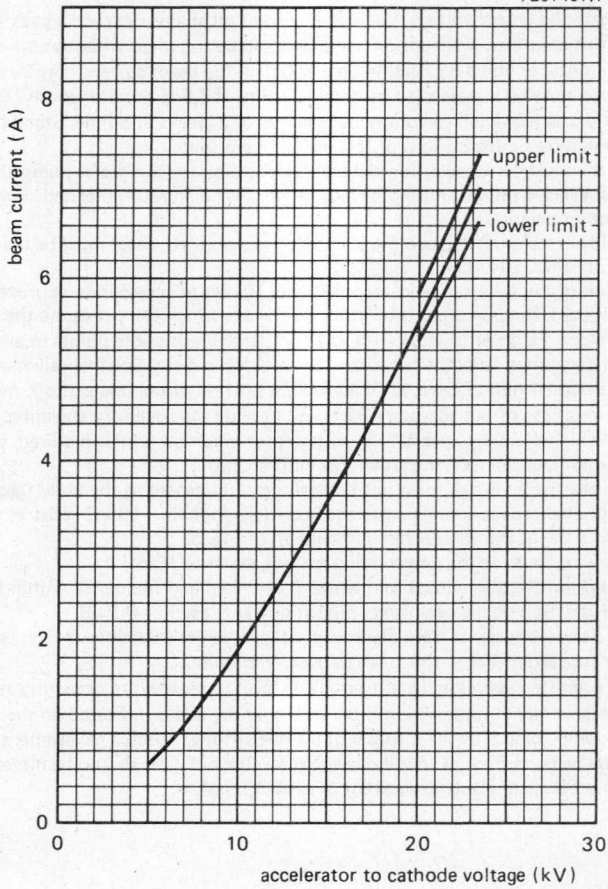

Fig. 3.
8. If the accelerator electrode is connected to the body (ground) via a 10 k Ω resistor, the beam current is within $\pm 5\%$ of the value given in the graph of Fig. 3.